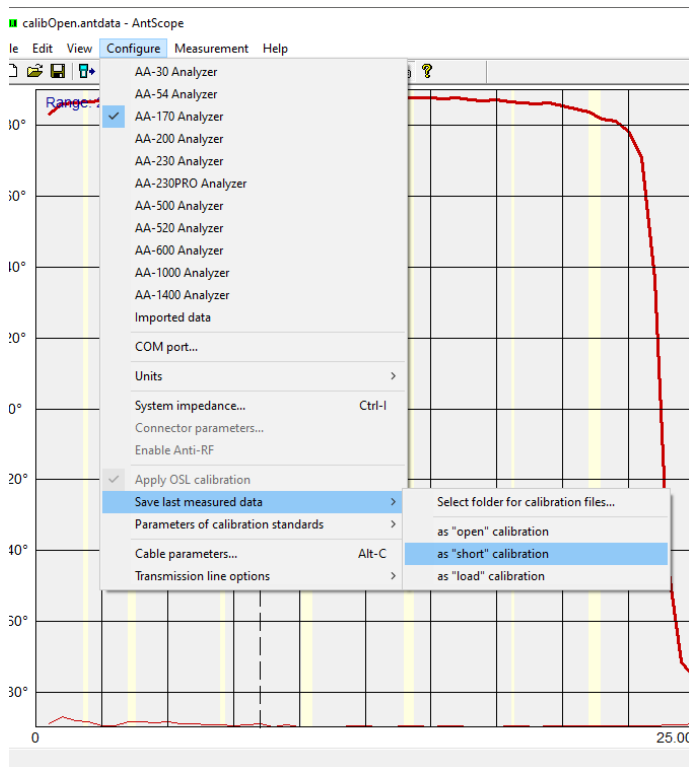

Figure 9-36: Configure > Save last measured data > as “short” calibration
3. Select **Configure > Save last measured data > as “short” calibration** as shown in Figure 9-36.